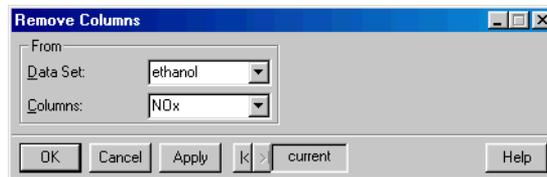

Figure 2.28: *The Remove Columns dialog.*
- From the main menu, choose **Data ► Remove ► Column**. The **Remove Columns** dialog opens, as shown in Figure 2.28.